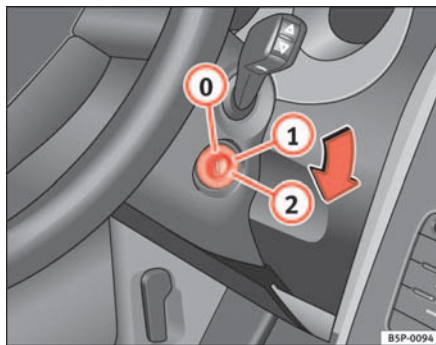

Fig. 131 Ignition key positions
In the position ⇒ fig. 131 the ignition and the engine are OFF and the steering may be locked.
- Turn the ignition key to position ⇒ page 161, fig. 131 ①. The indication lamp  will light for engine pre-heating.
- When the warning lamp goes out, turn the key to position ② to start the engine. Do not press the accelerator.
- Turn the ignition key to position ⇒ page 161, fig. 131 ①.